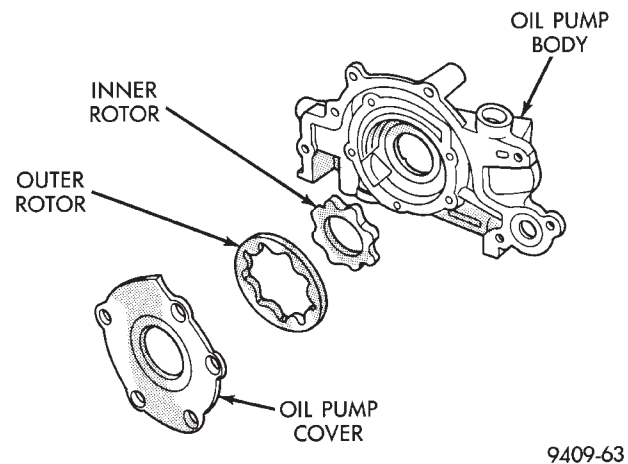

Fig. 95 Oil Pump
(5) Remove pump rotors.
(6) Wash all parts in a suitable solvent and inspect carefully for damage or wear (Fig. 95).